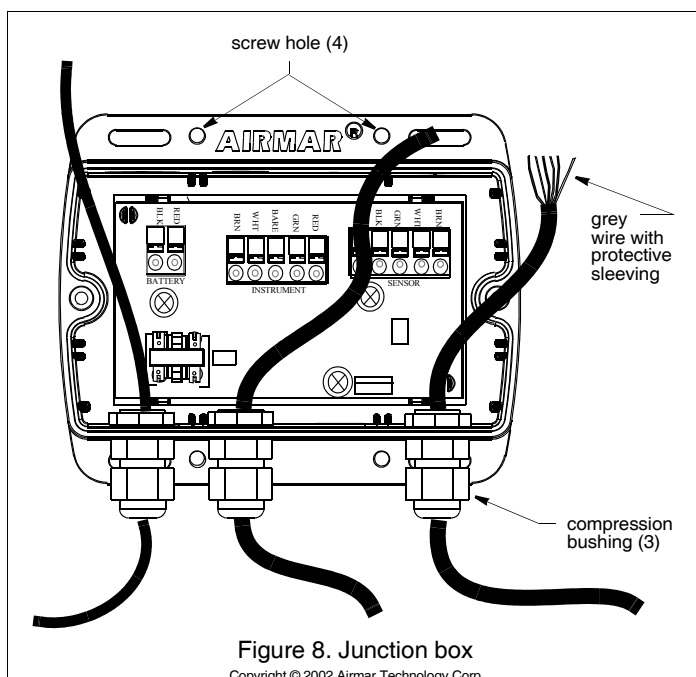

Figure 8. Junction box
1. Be sure the power is 'OFF'. Remove the junction box cover and set it aside along with the screws (Figure 8).